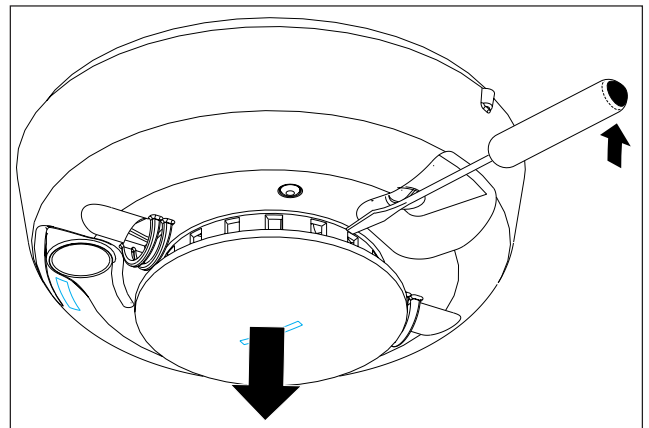

Figure 6: Remove Detector Cap
3. Slide a flat-blade screwdriver in the slot on the detector cap and gently push the handle down to pry the cap up and off. See Figure 6.